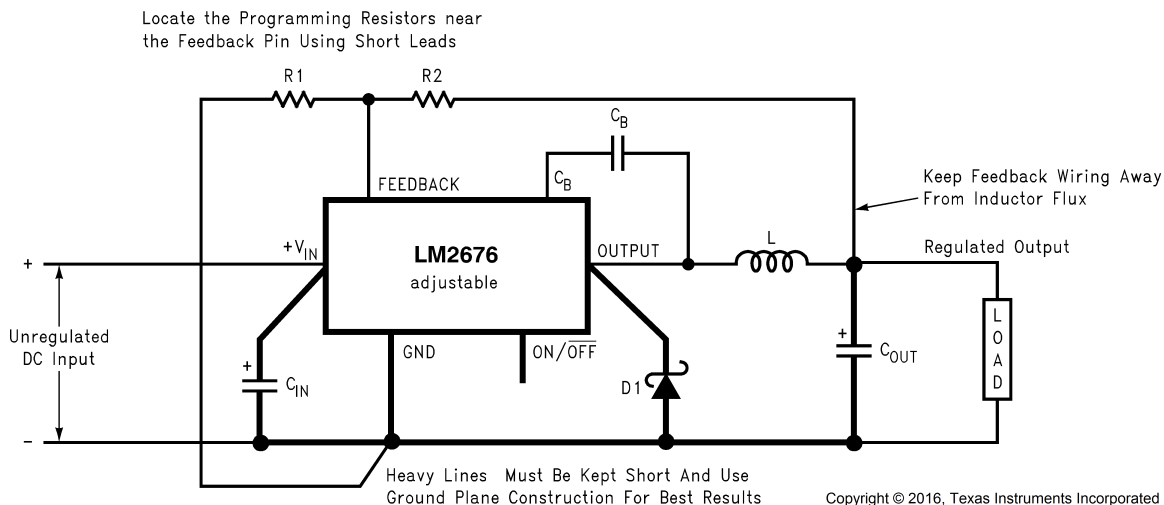

Figure 22. Basic Circuit for Adjustable Output Voltage Applications
Step 2: Select an LM2676S-ADJ. To set the output voltage to 14.9 V, two resistors need to be chosen (R1 and R2 in Figure 22). For the adjustable device the output voltage is set by the following relationship: